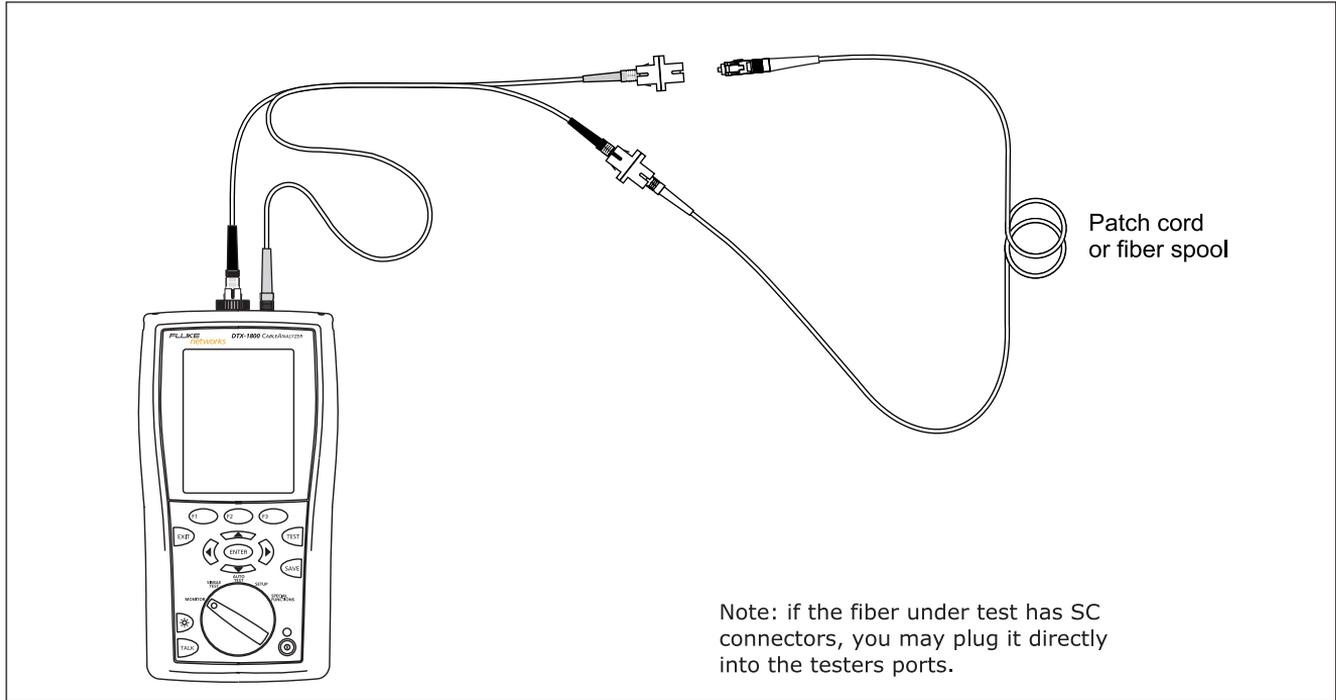

Figure 6-25. Using FindFiber in Loopback Mode
- 3 Clean all connectors; then connect the tester's **OUTPUT** fiber to one end of the fiber path, as shown in Figure 6-25.